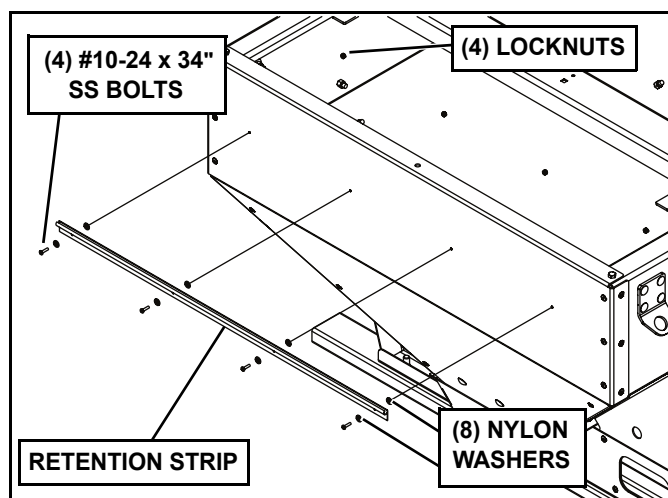

Figure 4
- Install the retention strip using (4) #10-24 x 3/4" Stainless Steel bolts, (8) nylon washers, and (4) locknuts. Make sure there is a nylon washer on each side of the retention strip. (See Figure 4.)